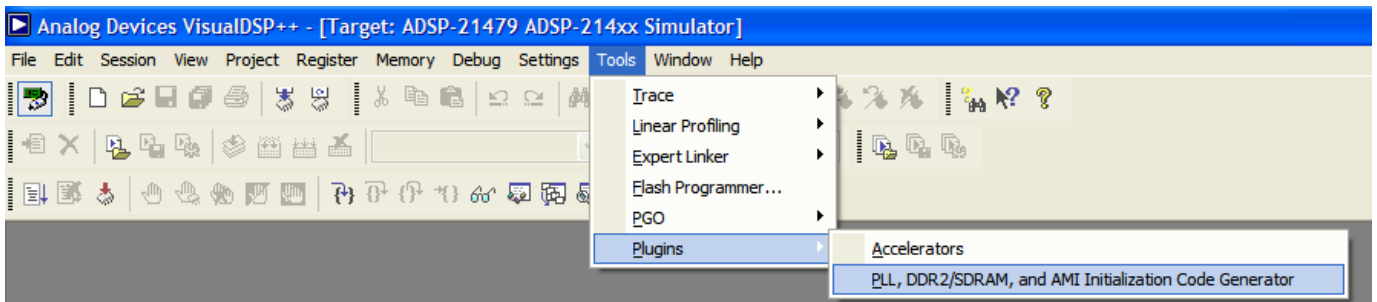

Figure 6. Accessing “Code Generator for PLL, DDR2, and AMI Controllers”
- Once the registration is completed, the plug-in can be accessed via: Tools->Plugins->PLL, DDR2/SDRAM, and AMI Initialization Code Generator as shown in Figure 6.